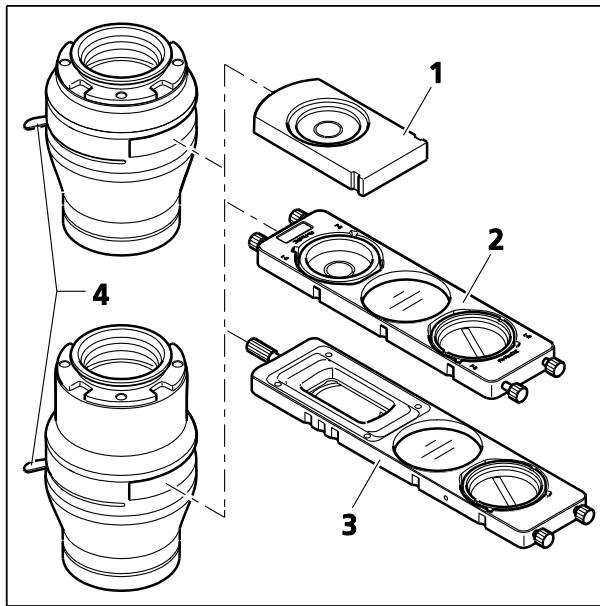

Fig. 2-14 LD Condensers 0.3 and 0.4 for Sliders
- Condenser equipped with an adjustable aperture diaphragm (Fig. 2-14/4) for sliders with fixed phase stop Ph1/0.3 (Fig. 2-14/1) or Ph1/0.4; slider Ph/PlasDIC, H, Ph/PlasDIC (Fig. 2-14/2) or slider Ph/PlasDIC, H, Var (Fig. 2-14/3)